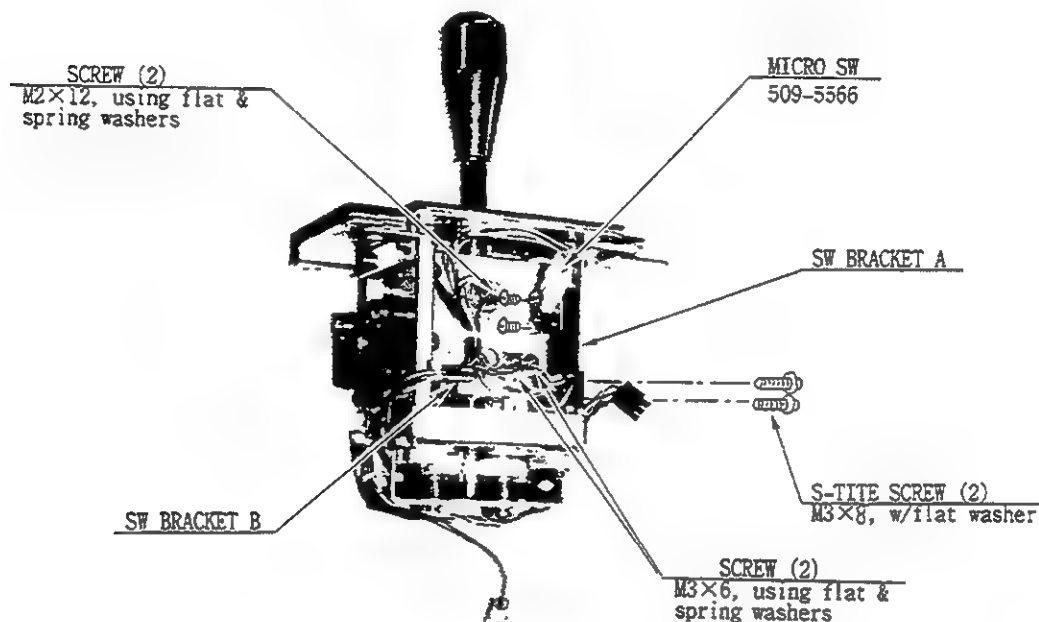

FIG. 14.2
- ① Disconnect the wiring connector of the SW to be replaced.
- ② Take off the 2 screws which secure the BRACKET (SW BRACKET A & B) to which the SW is attached, and remove the SW together with the bracket. (FIG. 14.2)
- ③ Take off the 2 screws which secure the SW, and replace the SW.